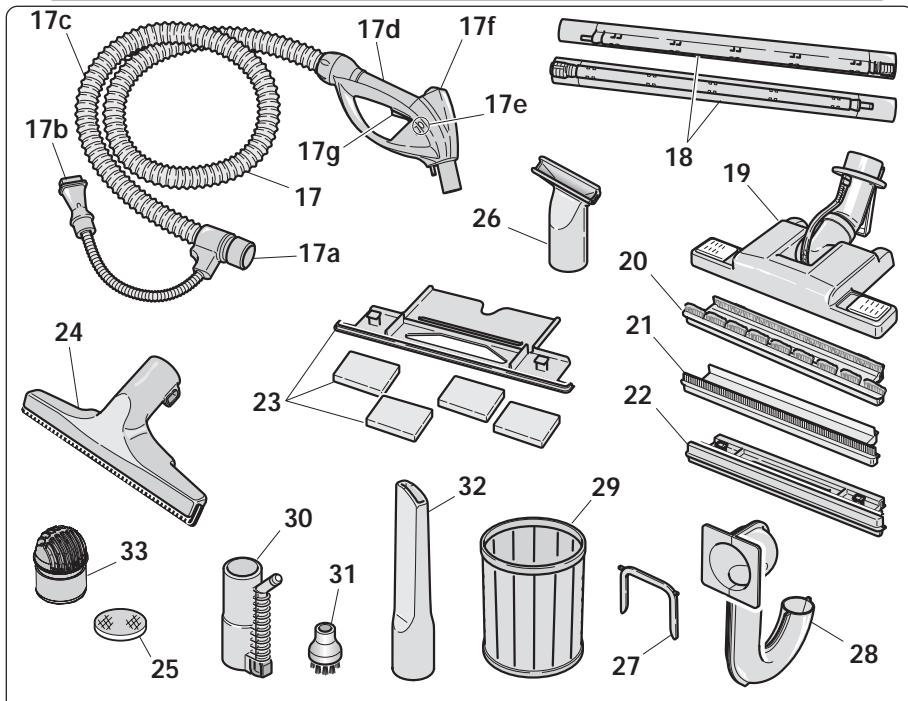

Fig. 02
Supplied Accessories (fig. 02):
CLEANING HEAD WITH BRISTLES (fig. 02 - pos.20) - Use this accessory with the Universal Brush, to vacuum flat surfaces such as marble or tiled floors etc.
CLEANING HEAD WITH RUBBER FOR LIQUIDS (fig. 02 - pos. 21) - Use this accessory with the Universal Brush to vacuum liquids from flat surfaces.
CLEANING HEAD WITH FLAT BRUSH FOR CARPETS (fig. 02 - pos. 22) - Use this accessory with the Universal Brush to clean all mats and carpets.
CLEANING HEAD WITH WOOL FELT FOR FLOOR BOARDS (fig. 02 - pos. 23) - Use this accessory with the Universal Brush to vacuum all flat and delicate surfaces such as floor boards.
WINDOW WASHER NOZZLE (fig.02 - pos.24) - Suitable for cleaning glass surfaces (mirrors, windows etc.)
SMALL MULTIPURPOSE NOZZLE (fig. 02 - pos. 26) - Use this accessory with the universal fittings-holder for cleaning mattresses, sofas, pillows, etc.
WASTE FILTER PIPE FOR HOLDER (fig. 02 - pos. 27) - The fork is required to block the waste filter pipe in the correct position.
WASTE FILTER PIPE (fig. 02 - pos. 28) - Thanks to the hole in the lower part, it mixes the dirt vacuumed with the water in the recovery tank, working as a natural filter (Venturi effect).
AIR OUTLET FILTER (fig. 02 - pos. 25) - For maximum efficiency, you are suggested to clean the filter regularly: Remove it from the cap, wash it under running water and leave it to dry before repositioning it into the blowing air output cap.
UNIVERSAL FITTINGS-HOLDER (fig. 02 - pos. 30) - This accessory is used for connecting the crevice tool or the small multipurpose nozzle.
NET FILTER (fig. 02 - pos. 29) - The use of this net filter is necessary for vacuuming both liquid dirt and solid/dry dirt (together with the waste filter pipe and with about 2 l. of clean water in the recovery tank).
CREVICE TOOL (fig. 02 - pos. 32) - Ideal for reaching the most difficult points like corners, radiators.
MULTIUSE BRUSH WITH NYLON BRISTLES (fig.02 - pos. 31) - Use this accessory with the universal fittings-holder for a better abrasive cleaning strength (e.g.:for cleaning tiled floors, cooking stoves).
ATTENTION : It is always necessary to use the net filter (fig. 02 - pos. 29).